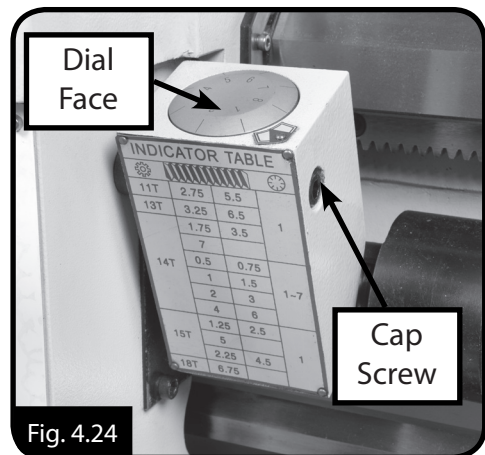

Fig. 4.24
The machine is designed to cut most metric and inch threads. The following sections will describe how to use the threading controls to set up the lathe for a threading operation. If you are unfamiliar with the process of cutting threads on a lathe, it is strongly recommend that you read a trade manual such as Hafco L341, or seek formal training before attempting any threading projects. Consult the thread charts for the correct lever settings. The numbers on the thread dial are used with the thread dial chart to show when to engage the half nut during threading. (Fig. 4.24)
1. Loosen the cap screw on the thread dial and pivot the gear teeth so they mesh with the leadscrew threads, then re-tighten the cap screw. (see Fig. 4.24),